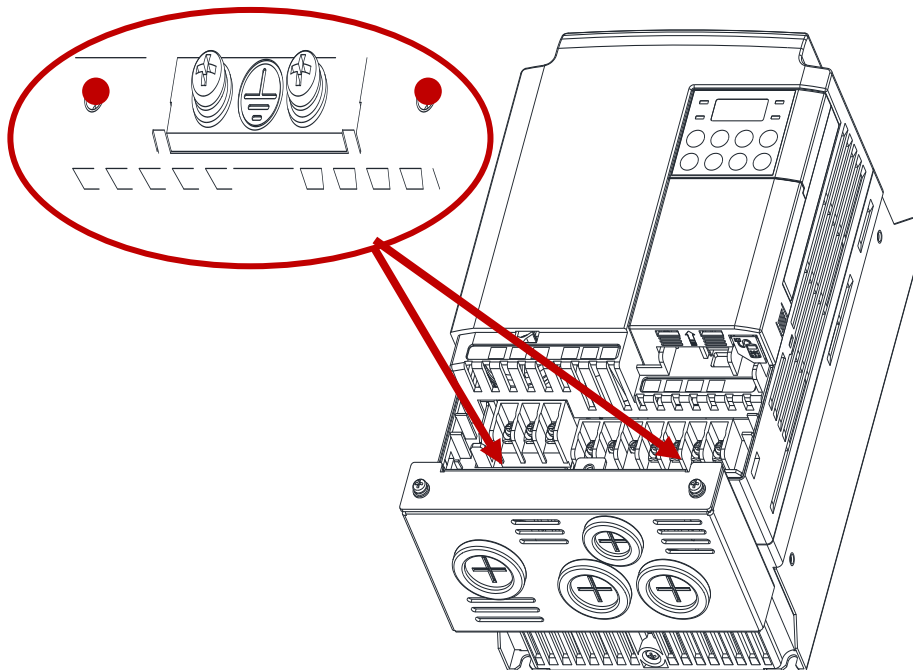

Figure 5. Installation - Front View
- ② Fasten the Conduit Box Option at the sides of the ground terminals at the specified locations as shown in the Figure 5.